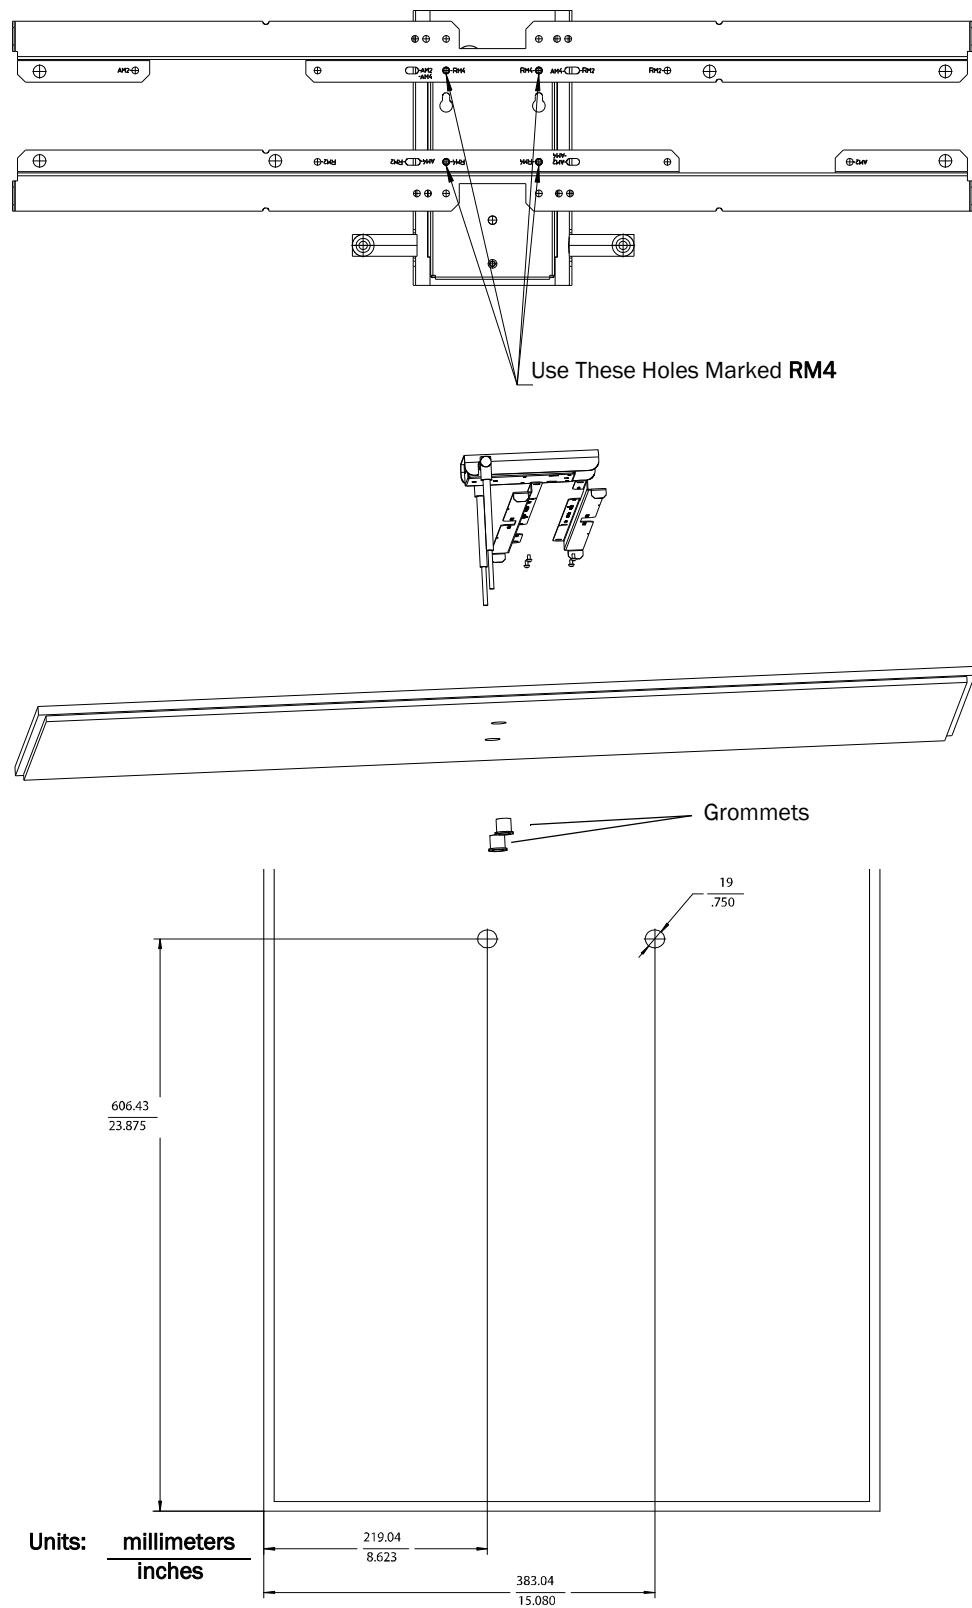
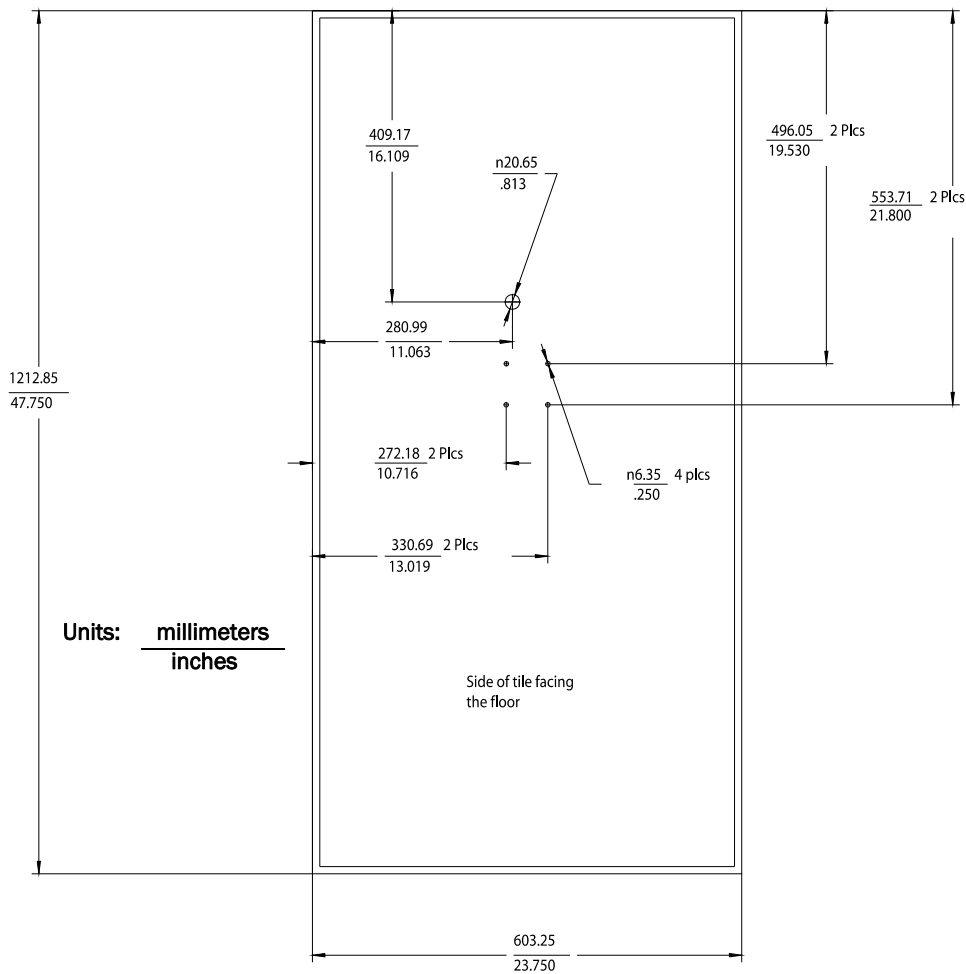

Figure 2-19: Alternative Above the Ceiling Remote Antenna Mounting Position
Figure 2-20: RA Below Ceiling Tile Hole Locations and Dimensions
The RA chassis can be rotated 90 degrees to the mounting rails. Choose the best placement of the RA to facilitate where the antennas will go through the ceiling tile. Note that there are two holes in the RA chassis to allow for tethering to other permanent structures where local building codes require this type of installation. Refer to Figure 2-18 or Figure 2-19 for the dimensions to locate the antenna holes in the ceiling tile.
6. Secure the mounting rails to the RA. Insert the four (4) M3 X 0.5 (8 mm LG) screws into the RA mounting rail holes, and into the mating holes in the back of the RA chassis as shown in Figure 2-19 or Figure 2-20. Torque-tighten each screw to 8-inch lbs.
Also, the RA chassis can be rotated 90 degrees. Choose the best placement of the RA to facilitate where the antennas will go through the ceiling tile. Refer to Figure 2-18 or Figure 2-19 for the dimensions to locate the antenna holes in the ceiling tile.
3. Refer to Figure 2-20 for all dimensions and hole locations. Place the mounting rails across the tile (underside of tile). For ceiling tiles that are smaller than standard 2' x 4' size ceiling tile, the mounting rails can be cut down in length at the u-shaped cutouts.